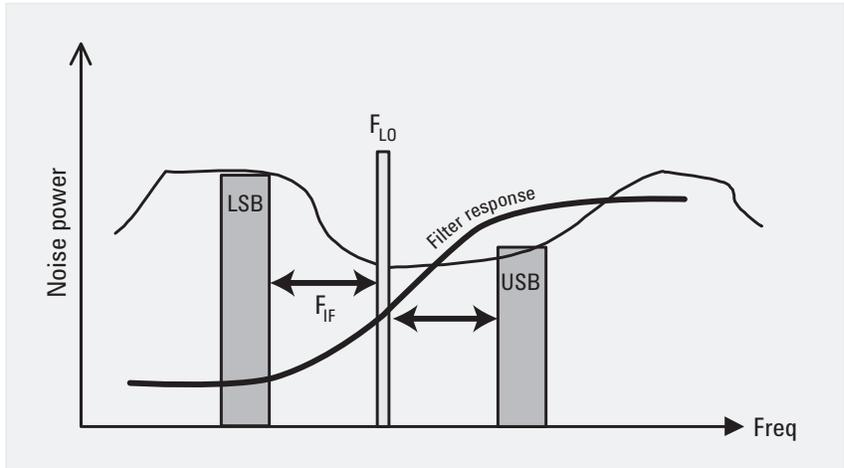

Figure 6-3
c. For single sideband measurements, select a LO far from the RF band of interest, if possible. The farther the LO is from the RF, the higher will be the IF, and the less stringent will be the rolloff requirement for the filter that suppresses the unwanted sideband as shown in Figure 6-3.